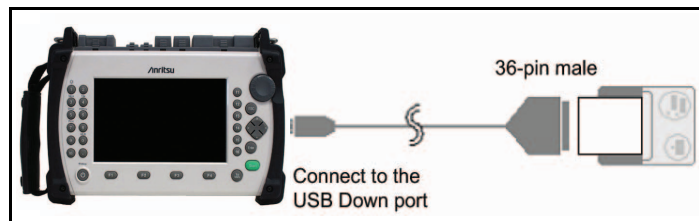

Figure 6-30: Connecting the BL-80RII Printer
1. Connect the BL-80RII or SD1-31 printers to the MT9083 Series as shown in Figure 6-30, and then power up the printer.